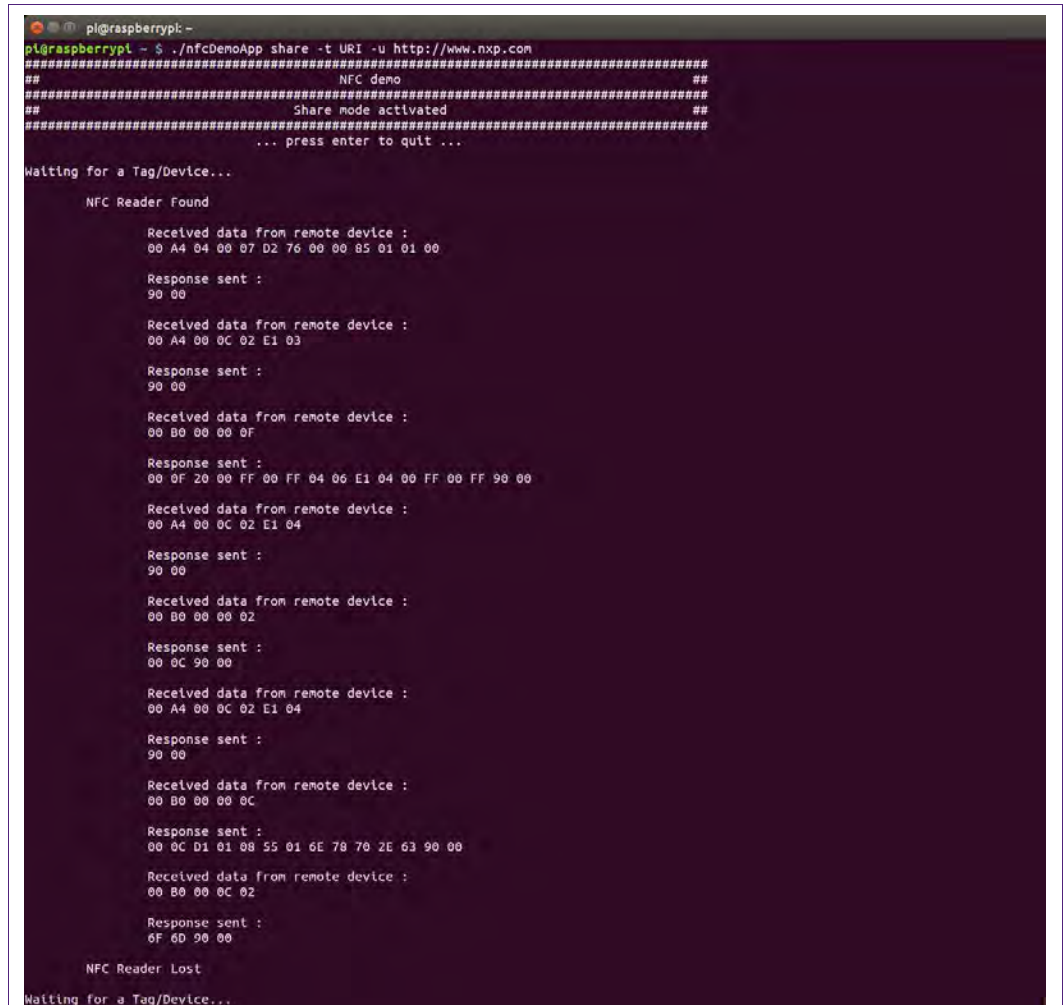

Fig 6. Linux demo application Tag emulation mode
- Fig 6. Linux demo application Tag emulation mode.. 14